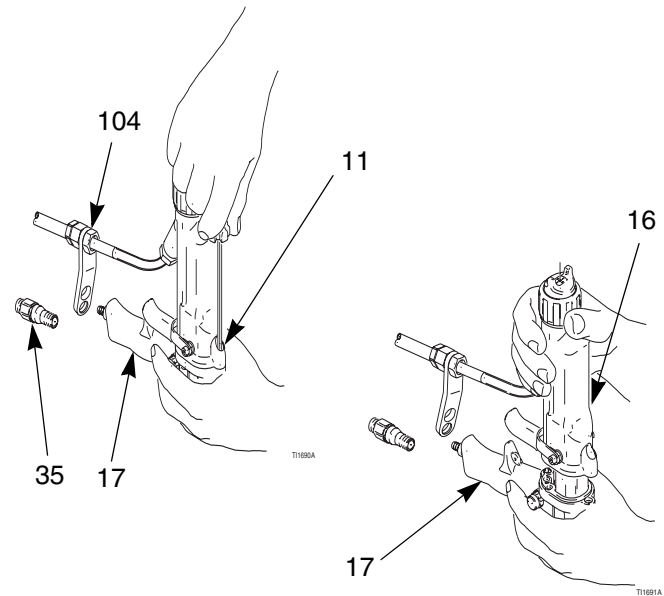

Fig. 28. Barrel Removal
4. Hold the gun handle (17) with one hand and pull the barrel (16) straight off the handle. See FIG. 28..